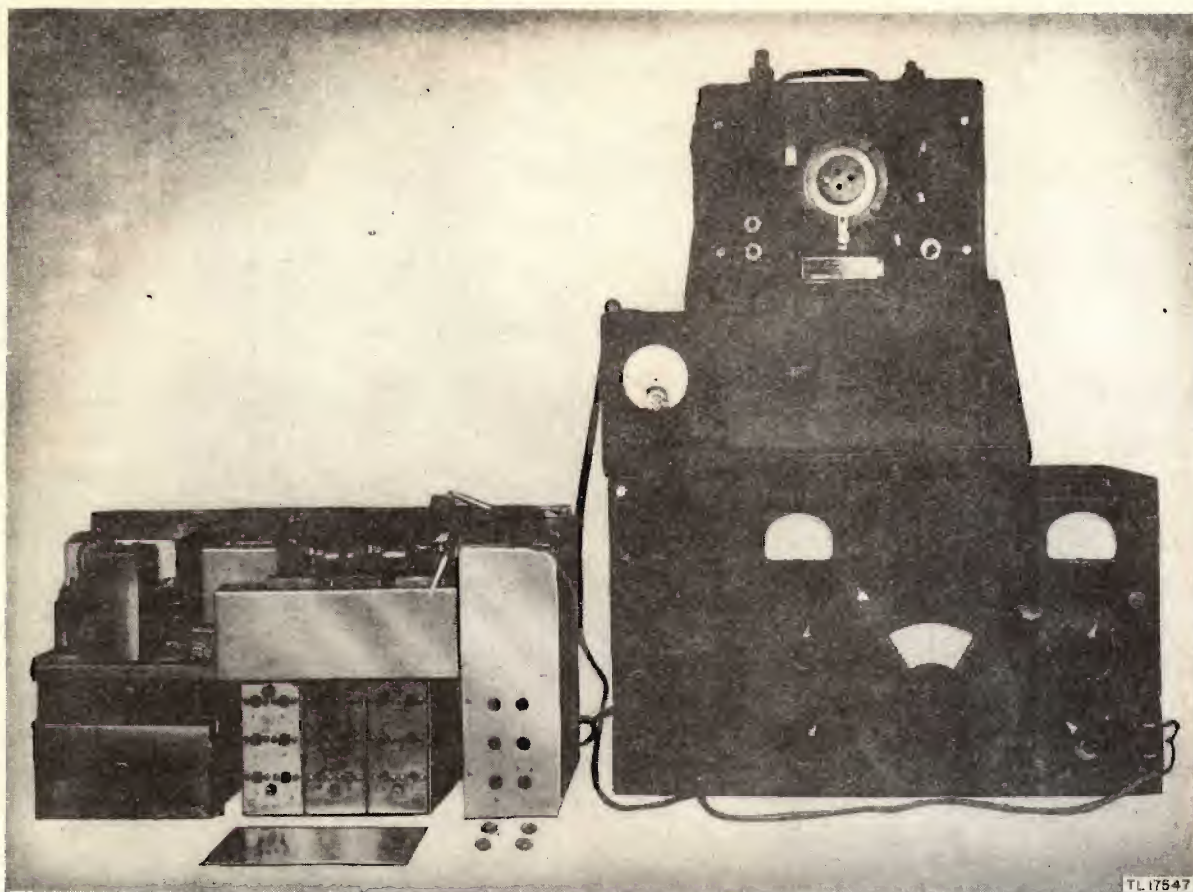

Figure 16. R-f alignment, typical set-up.
**b. PREPARATION.** Set up the receiver and alignment equipment as shown in figure 16. Calibrate the signal generator for a 2,900-kc signal (par. 16). Set the receiver BAND CHANGE switch on band A, the OFF-M. V. C.-A. V. C. switch to M. V. C., the C. W.-OSC. switch to OFF, CRYSTAL PHASING control to OUT, the VOL. control to maximum, and the receiver dial to 2,900 kc. Remove the shield plate covering the r-f and first detector adjustment screws on the rear of the chassis; loosen the adjustment screw locknuts.
(1) Attach the signal generator ground lead